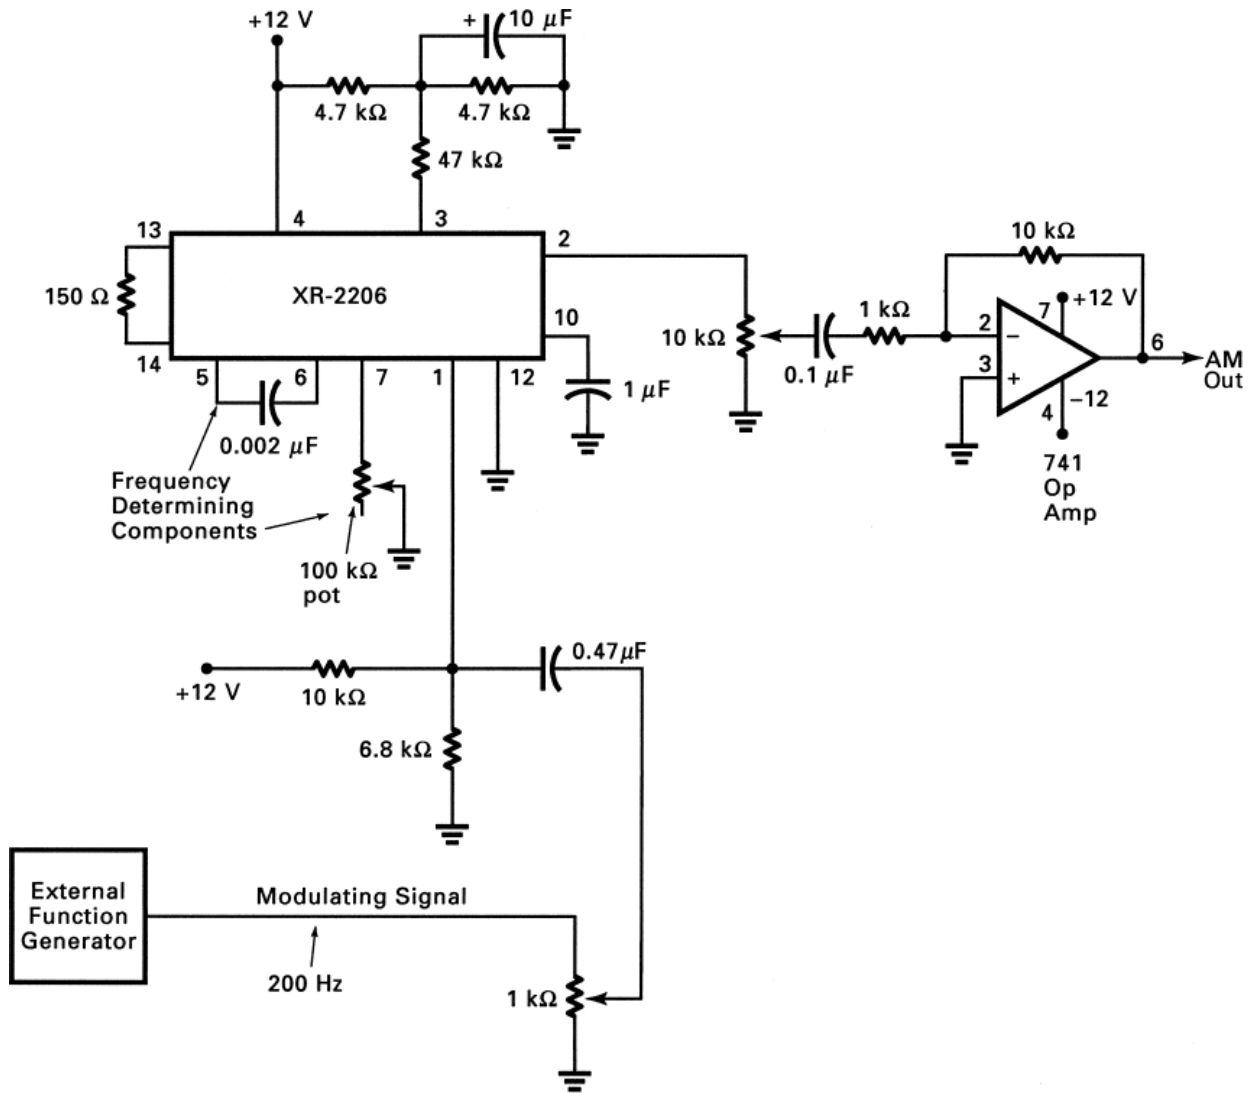

Fig. 4-10 Amplitude modulation of the 2206 function generator IC.
1. The modulator circuit you built in Project 3-1 will be used as the AM signal source in this experiment. Rewire the circuit to conform to Fig. 4-10. The modulating signal will come from an external function generator; the 741 op amp amplifies the AM signal to a level suitable for detection; and the 10-k Ω pot is used to adjust the carrier level.